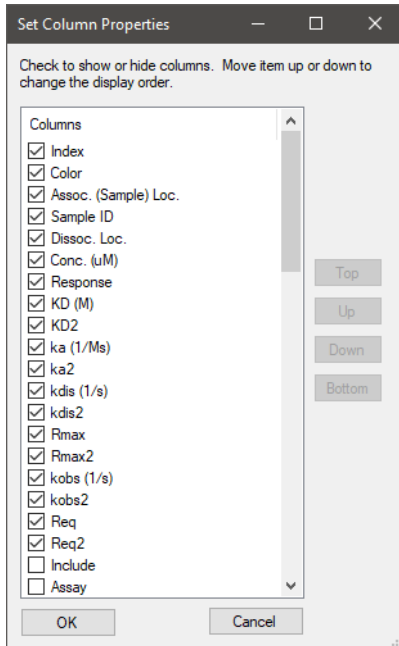

Figure 11-9: Set Column Properties Options
- **Choose Columns and display order** - Lets you pick which parameters are included in the table from a list of options. Check/uncheck an item to show/hide it. Click an item name and then click the Top, Up, Down, or Bottom to change the order of the column. The top item will appear on the far-left side of the table (Figure 11-9).